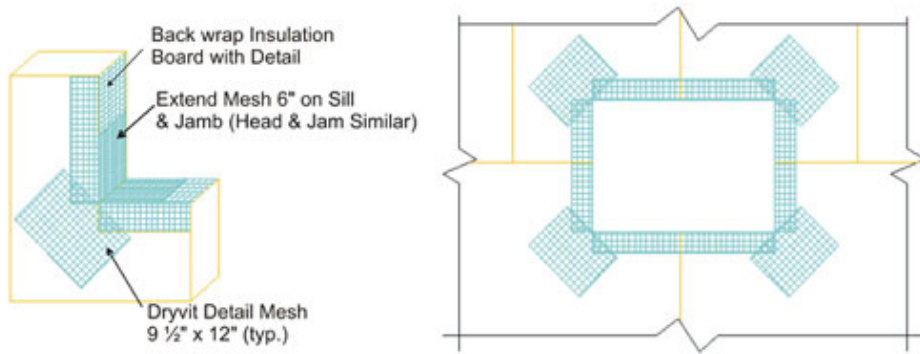

Figure 20
- a. At penetrations, align the insulation boards so that the edges (vertical and horizontal joints) do not coincide with the corners of the opening as illustrated in Figure 20
18. Corners of all openings such as windows, doors, mechanical equipment and all penetrations shall be reinforced with Detail Mesh placed diagonally to the opening as illustrated in Figure 20 previously.